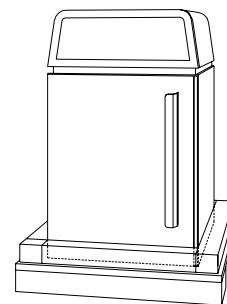

Figure 2.2
2. Remove the MX-20 from pallet. See Figure 2-2. The weight of the MX-20 is 62 kg (135 lbs) and it can therefore be lifted from the pallet by two persons. Save the packing material. Check for any damage and follow instructions in the "Claims" paragraph later in this section.